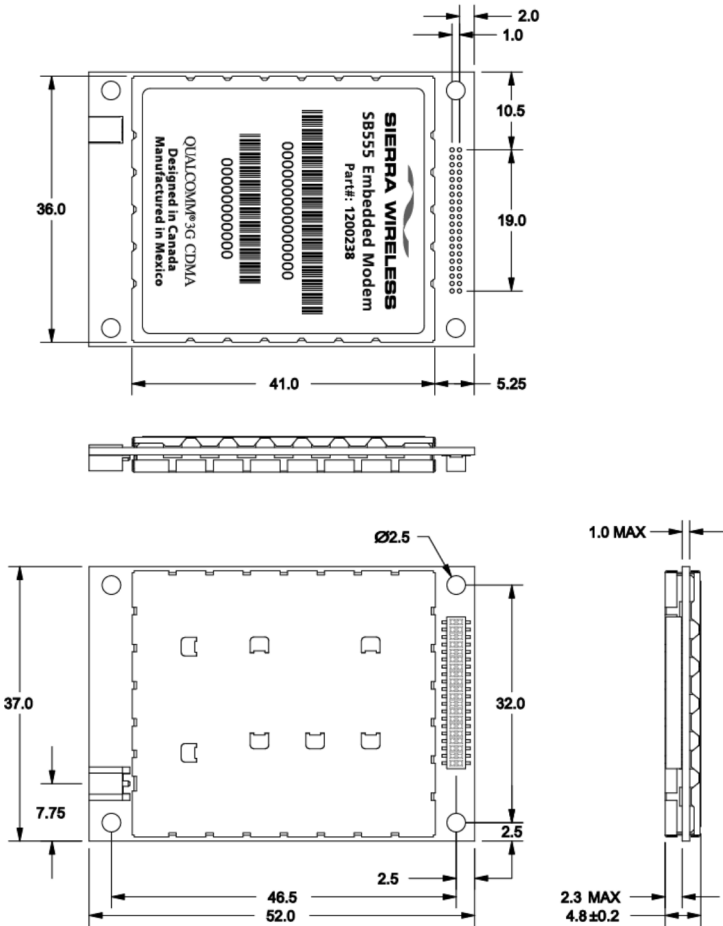

Figure 2-1: Module dimensions (in mm)
Sierra Wireless embedded modules have four (4) mounting holes of 2.5 mm (0.984") diameter, one located at each corner of the module (as seen in Figure 2-1). The mounting holes are sized to accommodate a metric M2 (#2 screw).